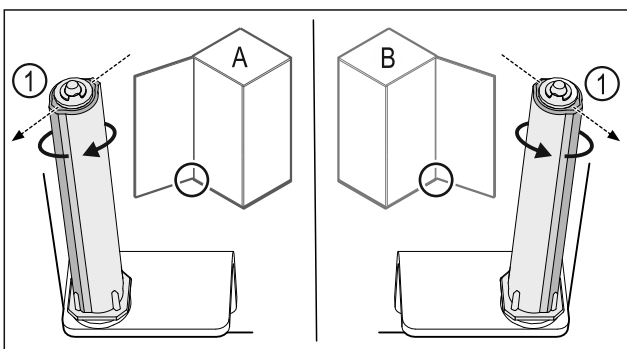

Fig. 35 Left-hinged (A) / Right-hinged (B)
- Turn the closing system against the resistance until the bar of the closing system Fig. 35 (1) points outwards.